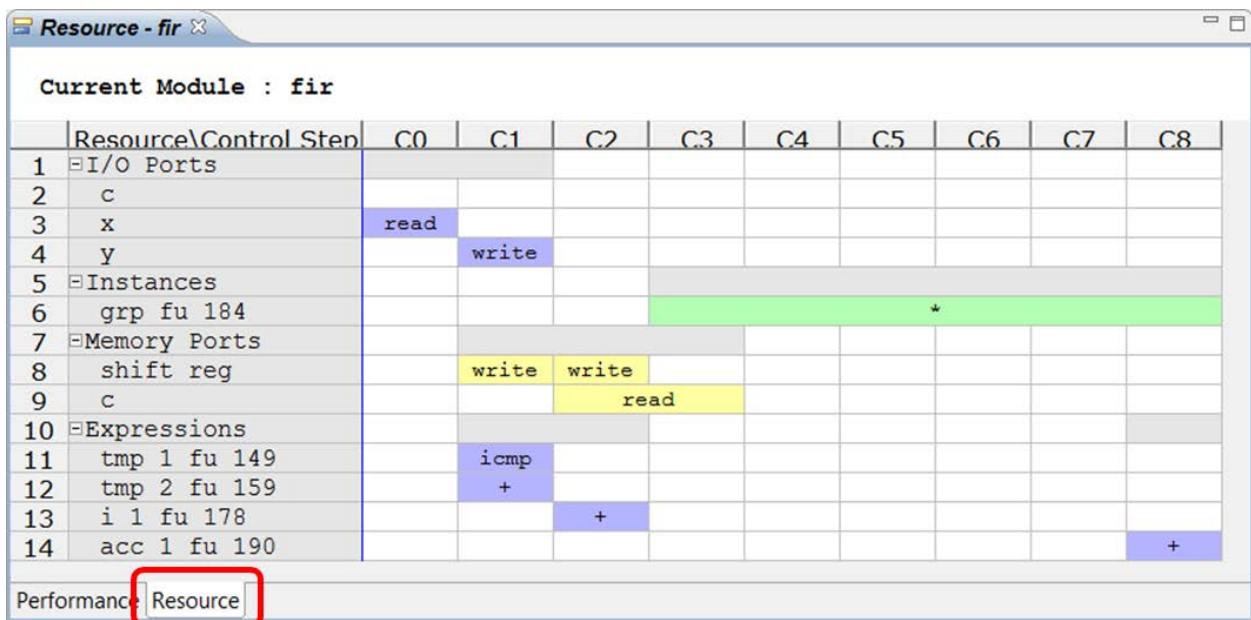

Figure 27: Solution2 Analysis Perspective: Resource
3. Click the **Resource** view, as shown in **Figure 27**.
4. Expand all the resource groups (also shown in **Figure 27**).
Figure 27 shows: